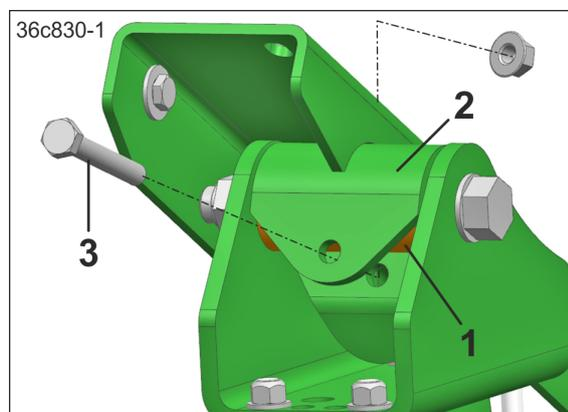

Fig. 95
3. Attach the bearing sleeves (Fig. 95/1) with the catching sockets (Fig. 95/2).
5. Lock the connection with bolts (Fig. 95/3).